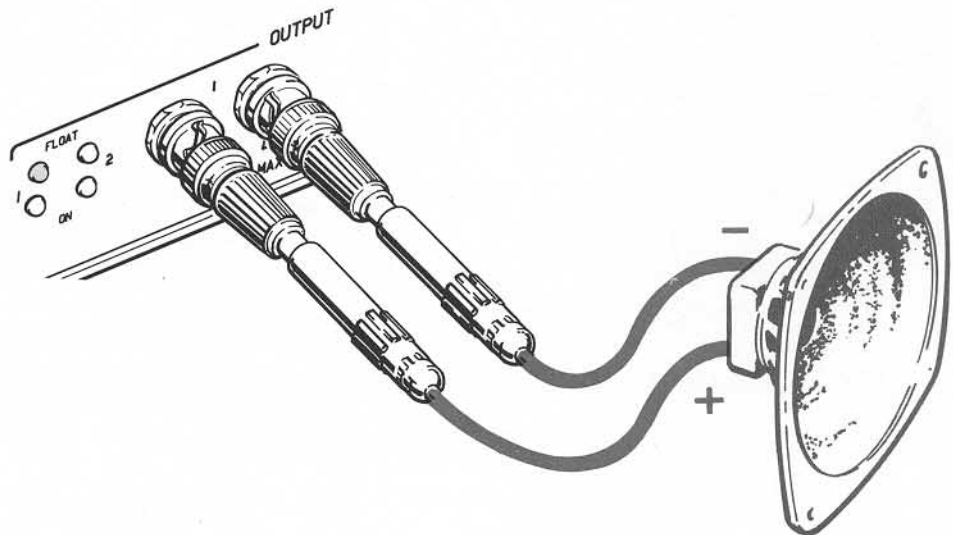

Figure 3-6. Connection Diagram for Connecting an External Speaker to Output 1.
15. Press any one of the DATA keys (0 through 9, A through D, or * or #) to output the corresponding DTMF signal for 44 ms at 2 Vpk. If you wish to hear the DTMF signals, Figure 3-6 shows a connection diagram for connecting an external speaker to Output 1.